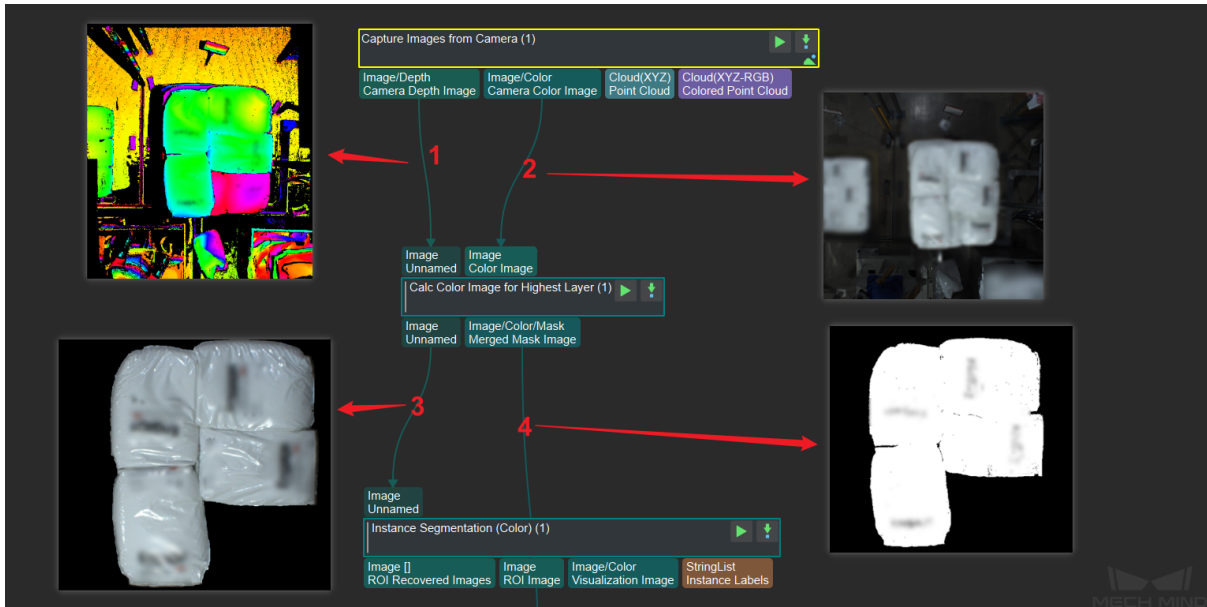

Figure 3. Comparison of the input and the output
- *Figure 3* is a comparison of the input and the output: